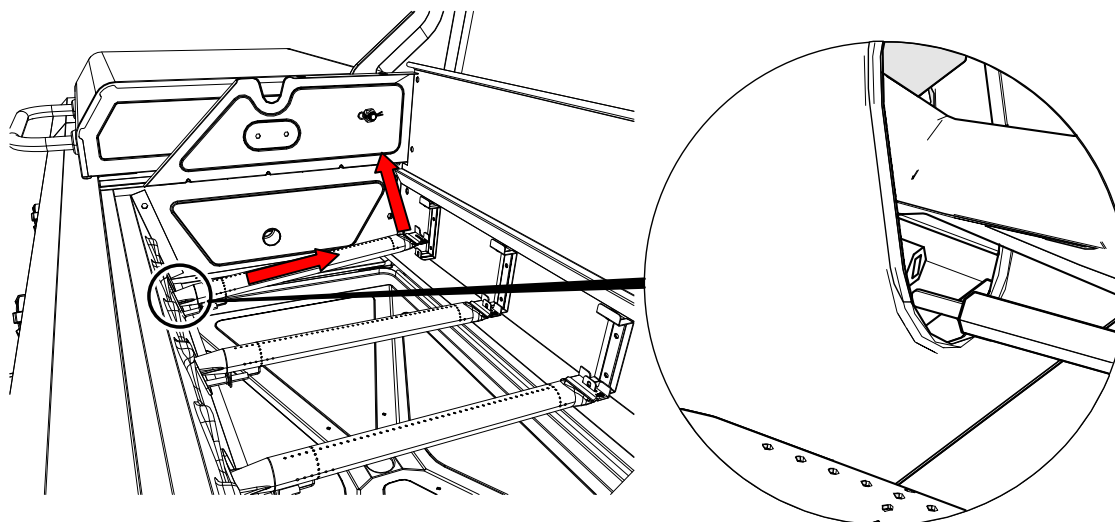

Figure 3
5. Detach ignition wire from electrode in Figure 3.